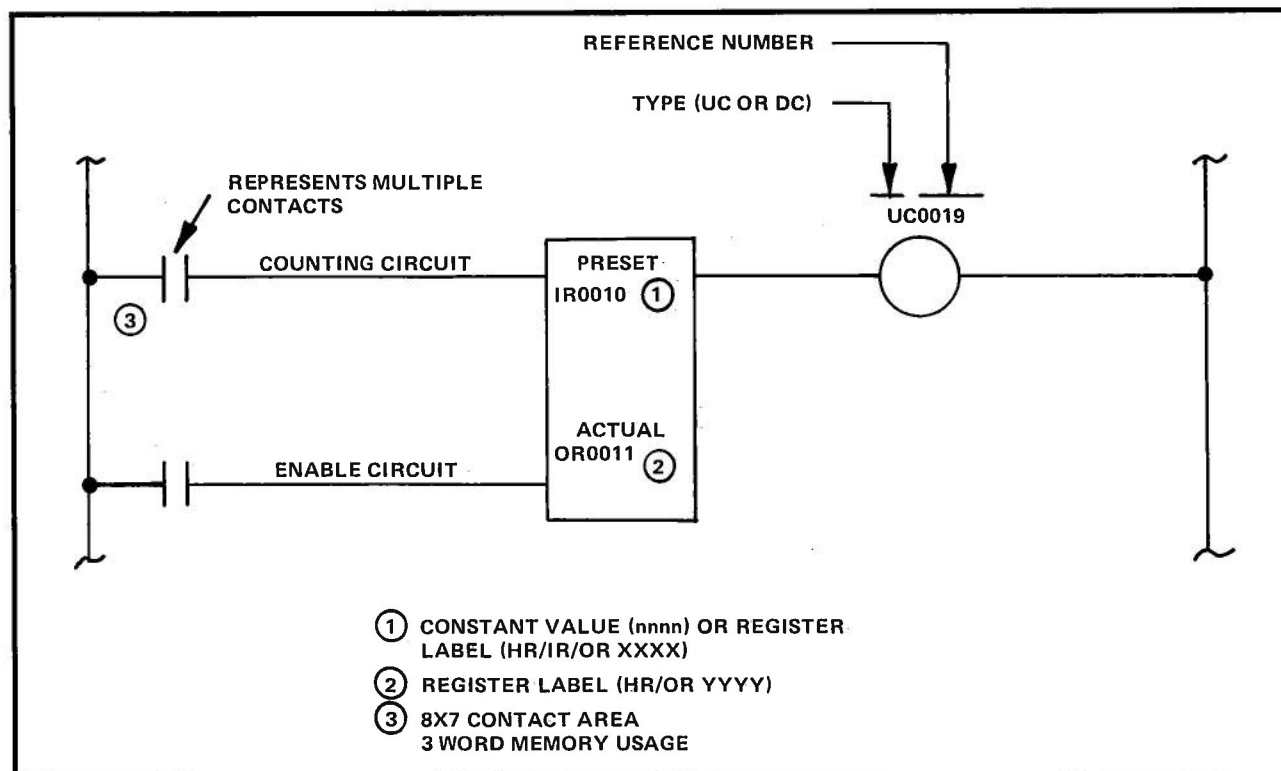

Figure 1. UP Counter (UC)/Down Counter (DC)
A counter is similar to a timer, except that it does not operate on an internal clock and is dependent on external or program sources for counting circuit control. Up Counter (UC)/Down Counter (DC) function symbology is shown in Figure 1.